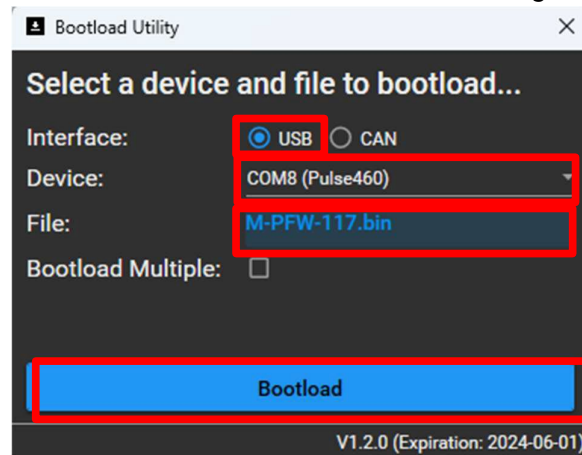

Figure 7: Load application firmware
- Select the correct COM Port and file for the device as shown in Figure 7